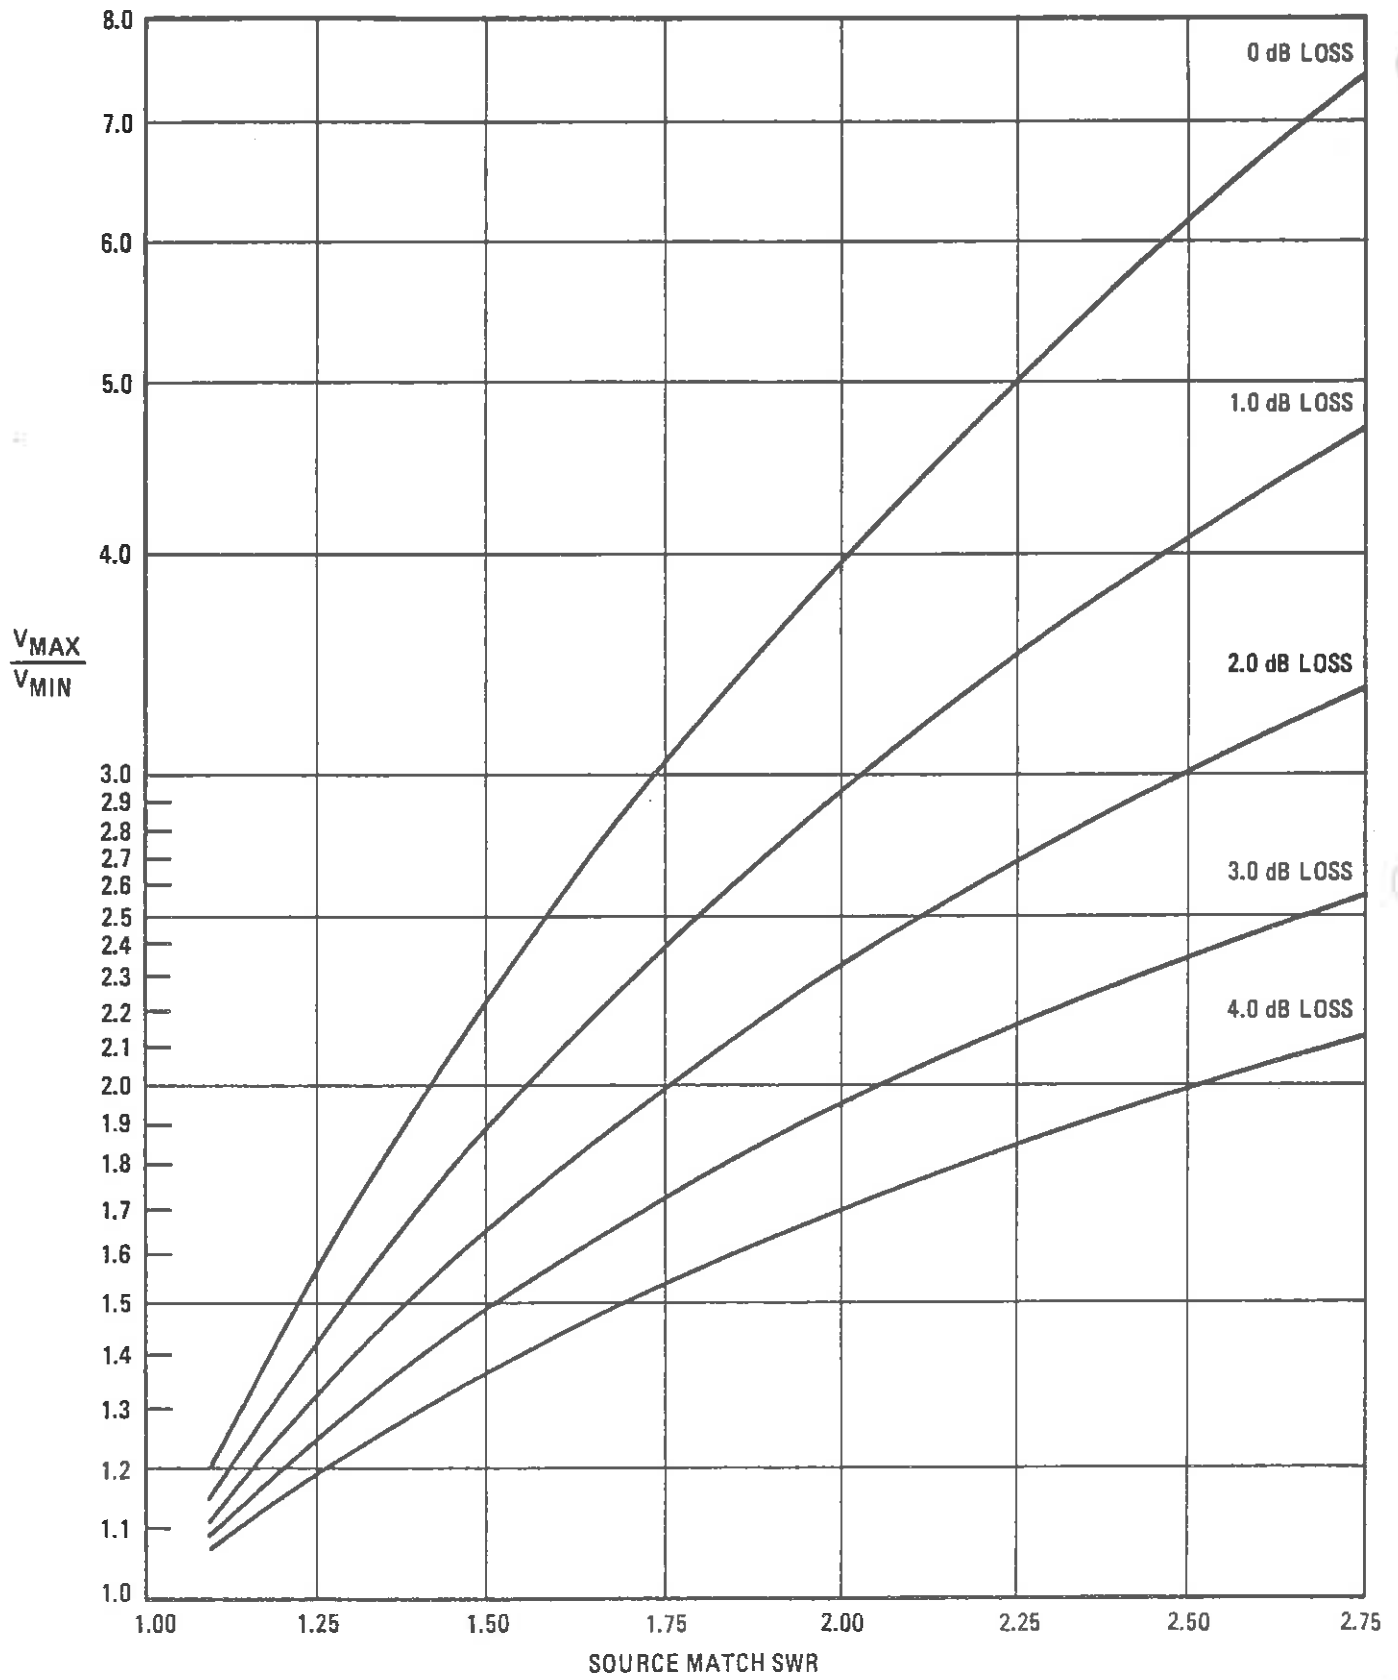

Figure 4-12. Conversion of Oscilloscope Trace to Source Match SWR
5. Convert the greatest V MAX/V MIN ratio noted in step 4 into source match SWR using the 1.0 dB loss line in figure 4-12. The SWR should be less than 2.0 for a standard instrument or less than 1.5 for an Option 001. Enter the calculated SWR in the test record.